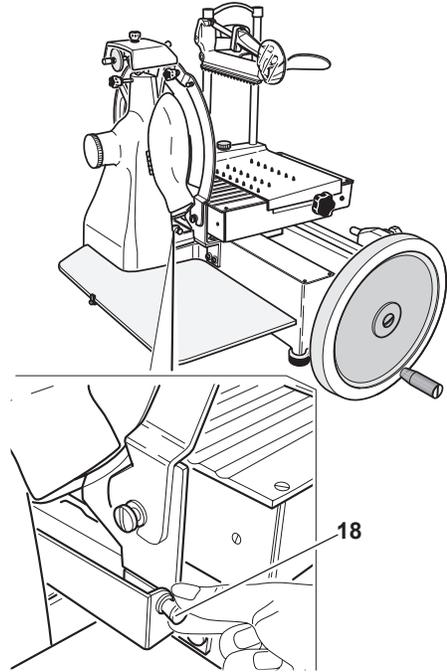

Figure 18-2
5. Install the grease collection pan (18) (Figure 18-2).